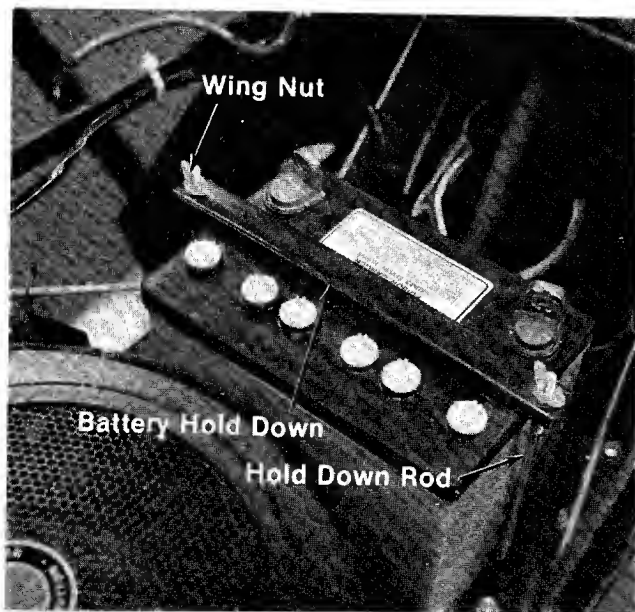

FIGURE 1.
2. Secure the battery with the two hold down rods, battery hold down, lock washers and wing nuts. See figure 1.